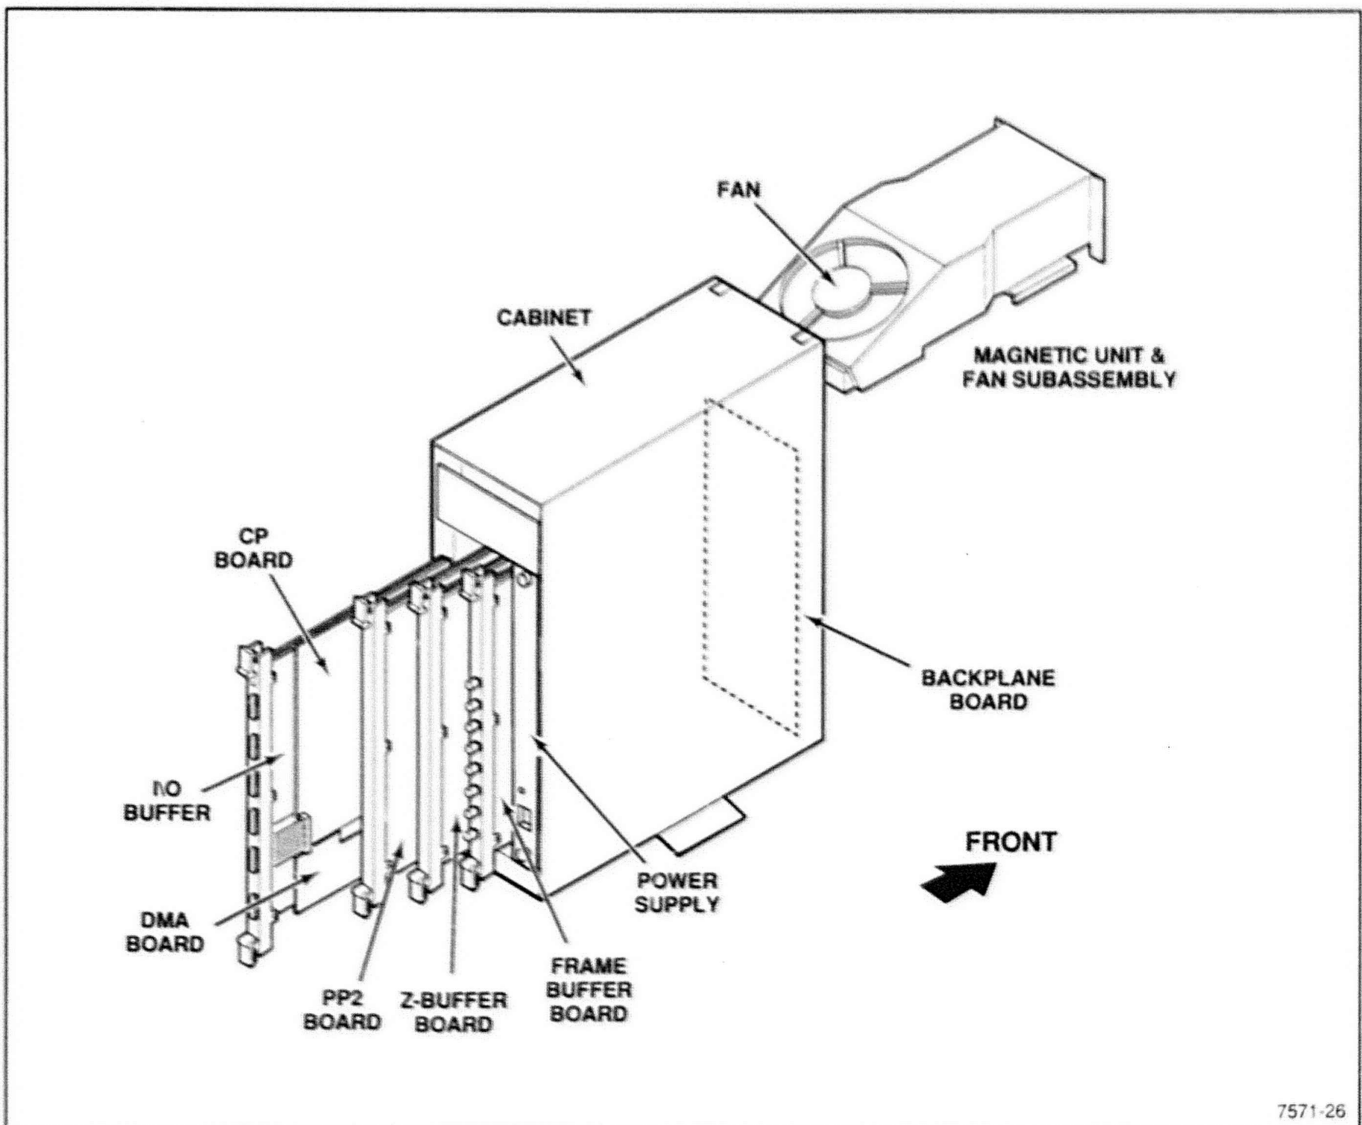

Figure 5-2. 3D Graphics Engine Module FRUs.
Figure 5-2 shows the location of some of the Graphics Engine Module's FRUs. The *3-D Graphics Engine Module* manual provides additional figures that diagram FRUs not shown here.
- \* Not shown in Figure 5-2